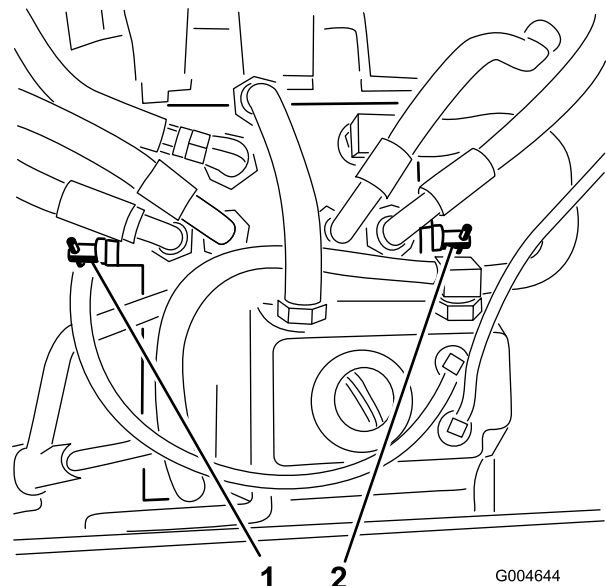

Figure 35
3. Rotate each by-pass valve counterclockwise 1 turn (Figure 35).
Rotate each by-pass valve clockwise 1 turn and hand tighten them (torque of approximately 71 in-lb (8 N·m)) (Figure 35).